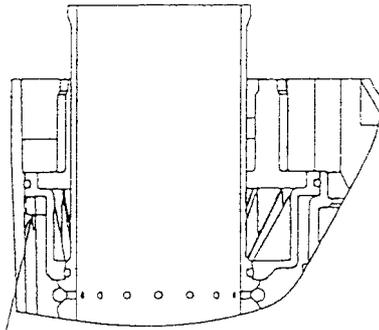

Fig. 19
- Mount the Cylinder Plate [12] to the Cylinder [15] facing the stopper of the Cylinder Plate [12] to the Piston Bumper [19]. When mounting to the Body Ass'y [18], fit the rib of the Body Ass'y [18] into the stopper groove of the Cylinder Plate [12] (Figs. 19 and 20).